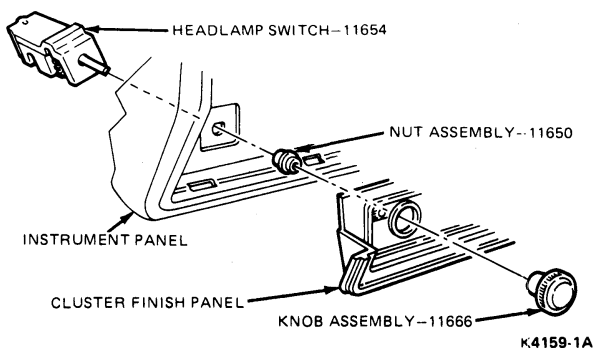

FIG. 5 Headlamp Switch Installation—F-100—F-350 and Bronco
2. On F-100—F-350 and Bronco, remove knob from switch shaft (Fig. 5). Remove the center finish panel (refer to Part 33-51).
remove the bezel and switch, then remove the wiring connector from the switch (Figs. 5 and 6).